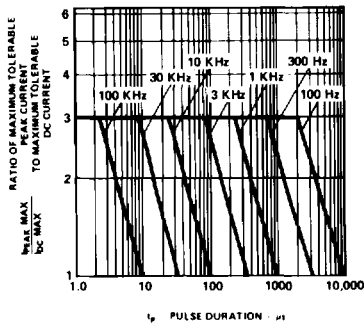

Figure 5. Maximum Tolerable Peak Current vs. Pulse Duration (I_{DC} MAX as per MAX Ratings).
- See Figure 5 (Red), 10 (Yellow), or 15 (Green) to establish pulsed operating conditions.